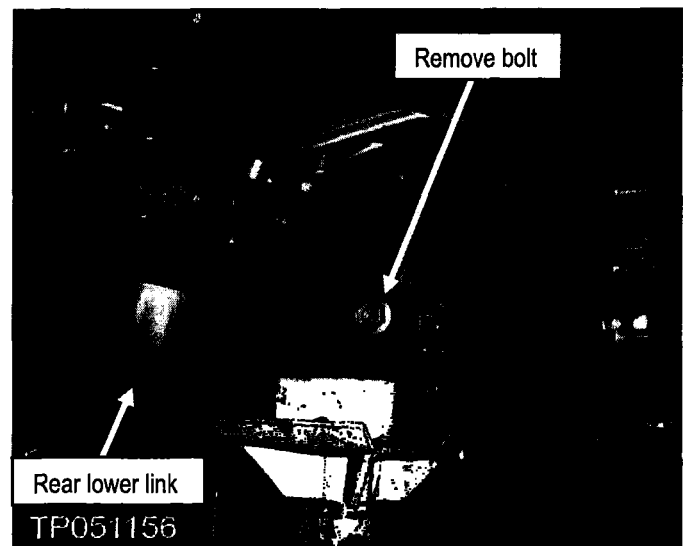

Figure 25
d. Place a support jack under the rear lower link and remove the nut/bolt that holds the link to the knuckle (see Figure 25).